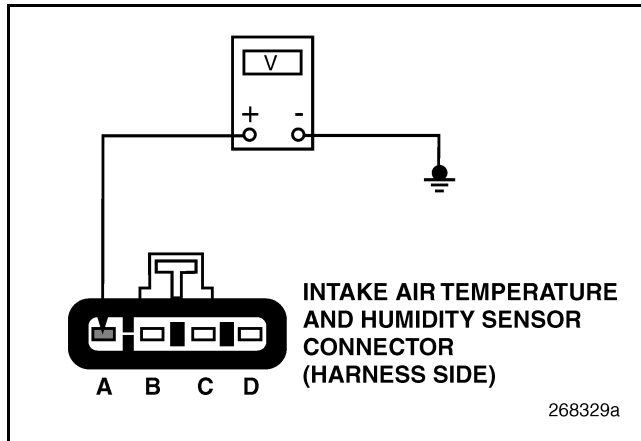

Figure 303
5. Measure the voltage between pin A of the IATH Sensor harness connector and a good ground (see Figure 303).